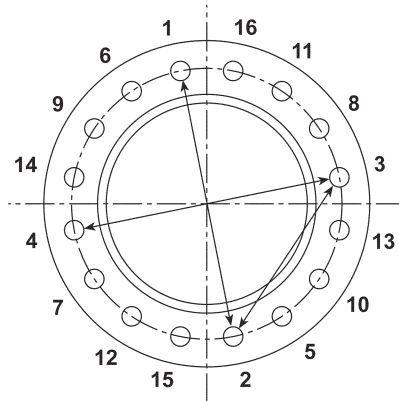

Fig. 13
- 5.3** Retighten the bolting on all gasket joints after the heat exchanger has reached operation temperatures to prevent leaks and gasket failures. Retightening should be done uniformly and in a diametrically staggered pattern as illustrated in Fig. 13 and in compliance with Section 6.6 'Bolting'.
6.6.1 When the heat exchanger is reinstalled it is necessary to apply the torque indicated in Table 3, the values are for lubricated surfaces of bolts and studs. The tightening must be done evenly operating on diametrically opposite bolts as illustrated in Fig. 13.